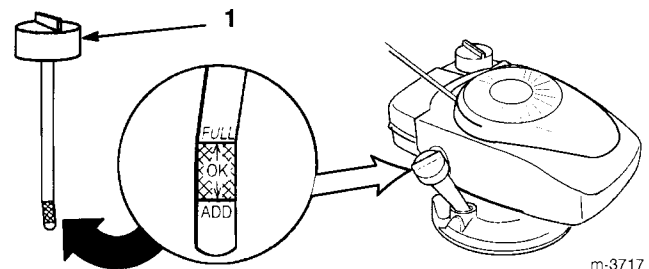

Figure 7
2. Clean around the dipstick (Fig. 7).
6. Read the oil level on the dipstick (Fig. 7).